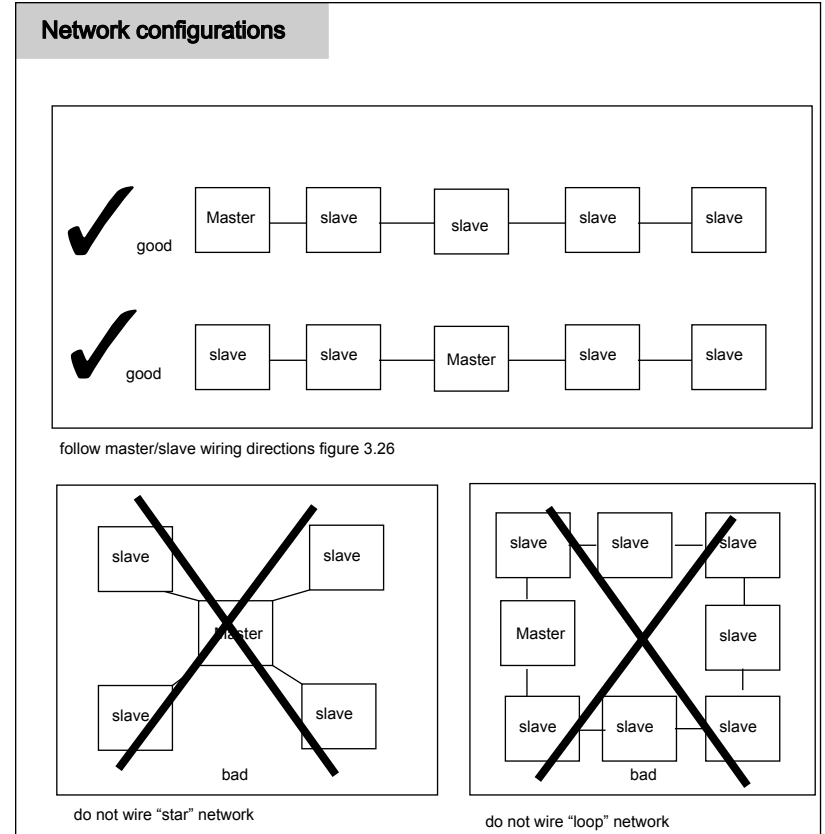

Figure 3.28
- Remove network terminal strip from any networked slave that is not powered. Network rewiring is required if a stub (*see next note) is created when a slave is taken off the network. See valid network configuration - figure 3.28
5200A networks must be configured point-to-point (instrument-to-instrument). Network wiring cannot contain loops, stars, or stubs - figure 3.28.